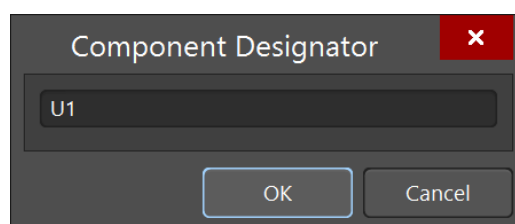

Figure 3. Jump to Component dialog
8. To jump to a component using its reference designator, press the **J » C** keys in succession. Enter U1 into the resulting *Component Designator* dialog as shown in Figure 3 below.